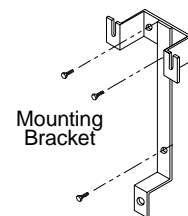

FIGURE 3
3. Remove the mounting bracket from the back of the manifold control by removing the nut at the bottom of the bracket. Place the upper edge of the "tee" mounting bracket on the marked horizontal line and centered with the vertical line. Holding the bracket with the slotted extensions away from the wall, mark the locations for three mounting bolts. (Figure 3)
4. Anchor the mounting bracket to the wall. Selection of mounting fasteners will depend upon wall construction. (Figure 3)